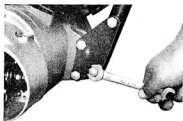

Fig. 4-1-14
13. Remove the engine mounting bolts, and de-mount the engine from the frame. (Fig. 4-1-14)